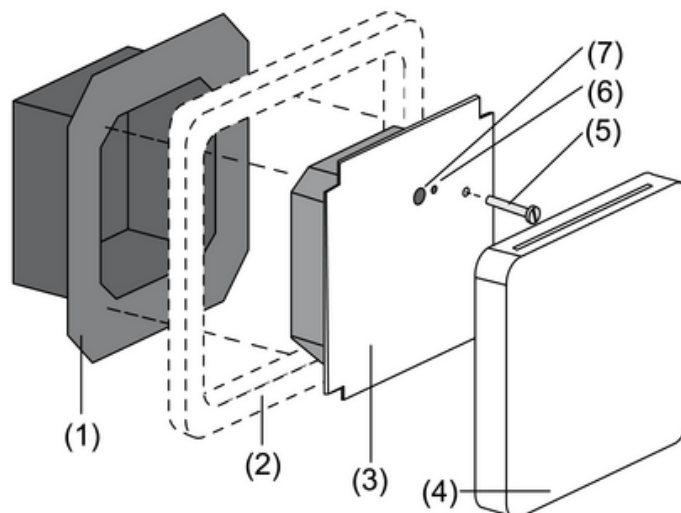
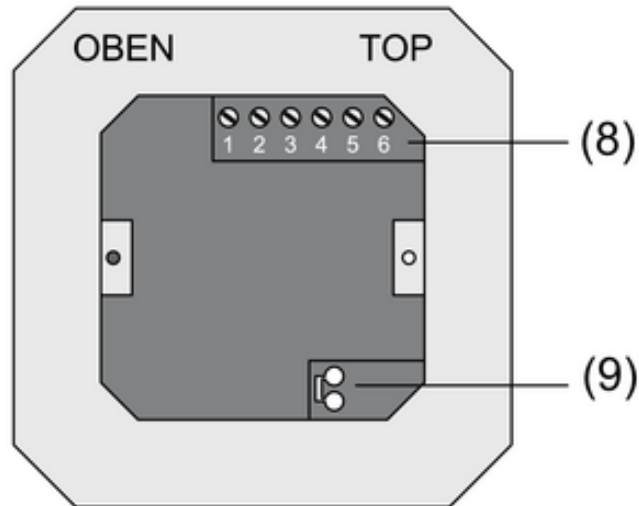
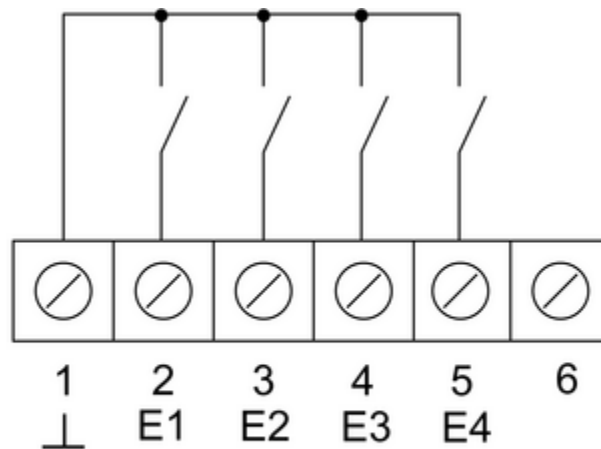
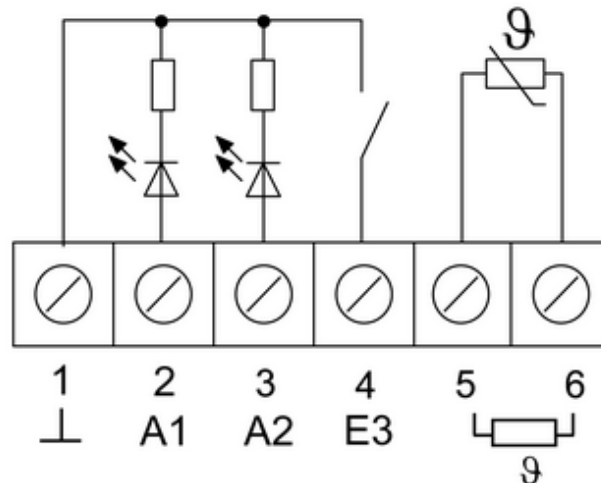

Figure 1
Figure 2
Figure 3
Figure 4
- Isolate terminal insert (1) from electronic insert (3) (Figure 1).
- Connect the bus line to the connection terminal (9) in the terminal insert (Figure 2).
- Binary inputs **E1...E4**: Connect NO or NC contacts as switches or buttons to the terminals **1** and **2...5**(Figure 3) of the terminal strip (8) (Figure 2).
- Binary inputs **A1...A2**: Connect the LED or electronic relay to the terminals **1** and **2, 3** (Figure 4) of the terminal strip (8) (Figure 2).
- Connect the external temperature sensor to the terminals **5** and **6**(Figure 4) of the terminal strip (8) (Figure 2).
- Insert terminal insert (1) (Figure 1) in flush-mounted appliance box. Note label **OBEN / TOP**. The bus connection (9) (Figure 2) must be to the right and below.
- Fit the Design frame (2) on terminal insert (1) (Figure 1).
- Insert the electronics cover into the terminal insert in the correct orientation (Figure 1).
- Removing the cover (4) (Figure 1).
- Fasten the electronics cover with the locking screw (5) (Figure 1).
- Reattach the cover (4) (Figure 1).
- Press the programming button (7) (Figure 1).
The programming LED (6) is illuminated (Figure 1).
The programming LED (6) is extinguished (Figure 1).